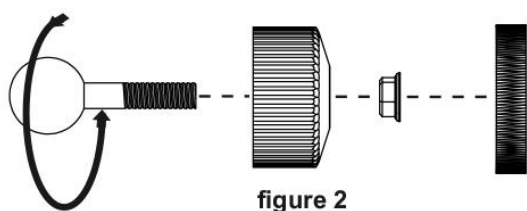

figure 2
Mount (3), (4) & (5) as shown in figure 2. Screw the threaded ball (4) into the threaded insert on the rear of the loudspeaker (6).